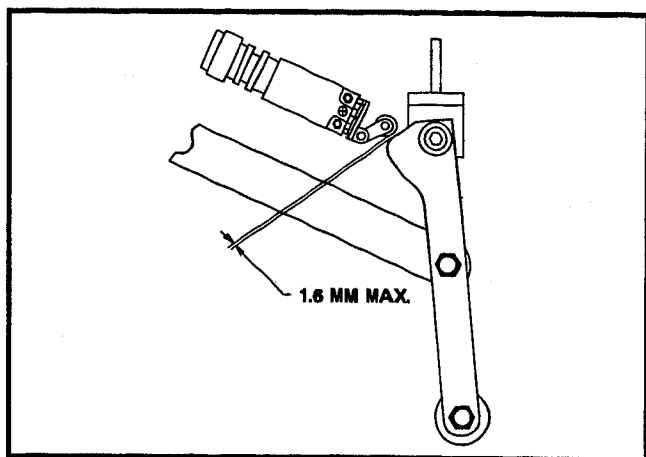

Figure 2-19. Pothole Protection System Limit Switch Adjustment. (Gravity Lift Down)
(See Figure 2-19.)
1. With the pothole protection system in the fully down position, mount the limit switch as shown in Figure 2-19.